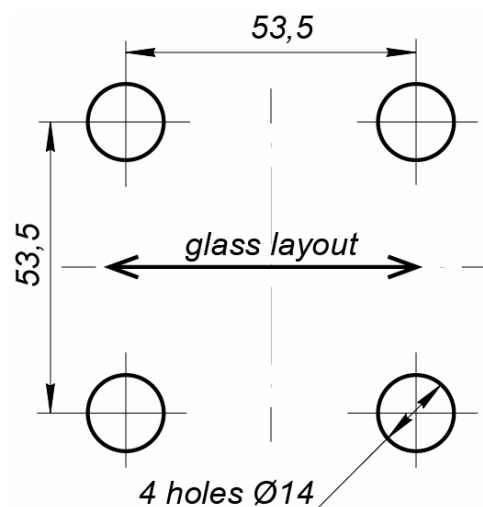

Figure 3. Hole spacing for mini-posts fixing
2. From the centers, mark 4 points for fixing flanges to the installation surface, as shown in Fig. 3, at these points, make holes $\varnothing 14$ for the anchors. Insert the anchors to the full depth of the prepared holes.